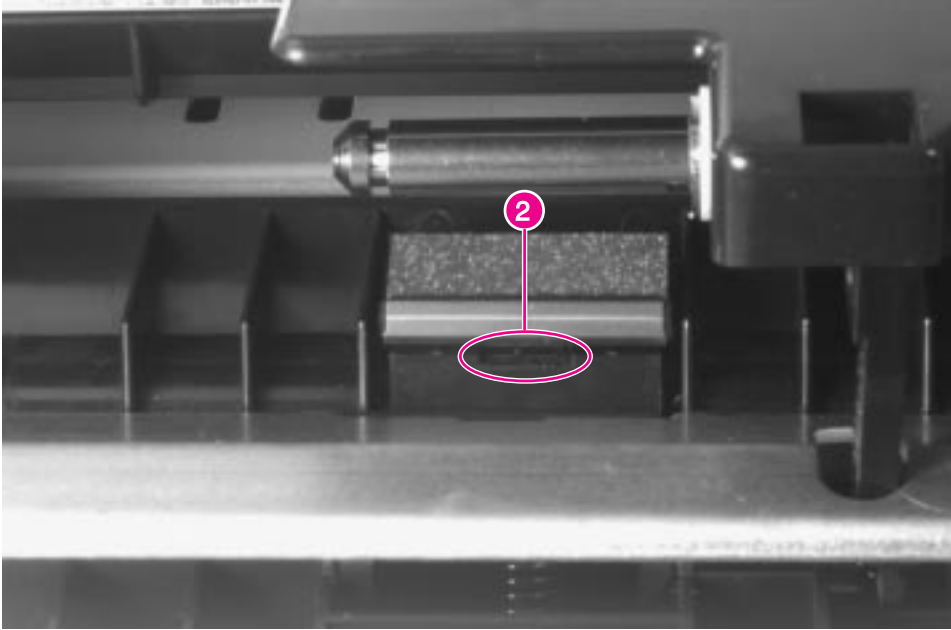

Figure 6-47 Tray 1 Separation Pad
- 2 Insert a flat-bladed screwdriver into the slot (figure 6-47, callout 2), and carefully pry the separation pad upwards out of its retaining notches.